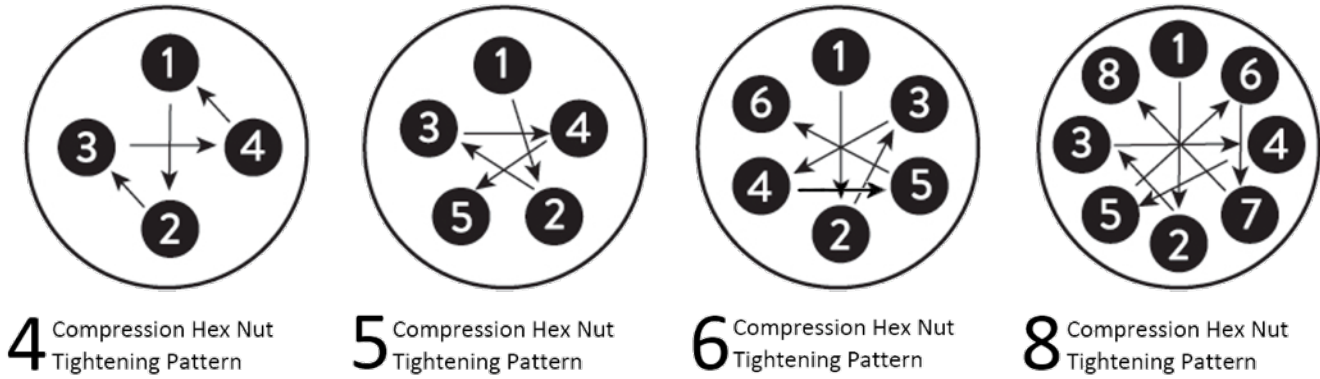

Figure 8: Compression Hex Nut Tightening Pattern Examples
- Using a star pattern shown in Figure 8, turn each **Compression Hex Nuts(19)** a maximum of 3 full revolutions before moving to the next nut. Repeat until 50% target torque is achieved on all nuts, then increase to 100% target installation torque and continue torquing in a star pattern. After completing the star pattern at 100% of the target torque, use a circular pattern to confirm all nuts are torqued correctly.